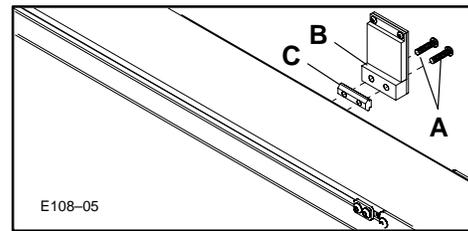

Figure 5: Reflector Attachment
- d. Refer to Figure 5 and attach Reflector with Mounting Bracket to Drop-in T-bar, using the two M6 x 25 mm Button Head Cap Screws (A). Tighten the Screws with the 4 mm Hex Key Wrench provided.